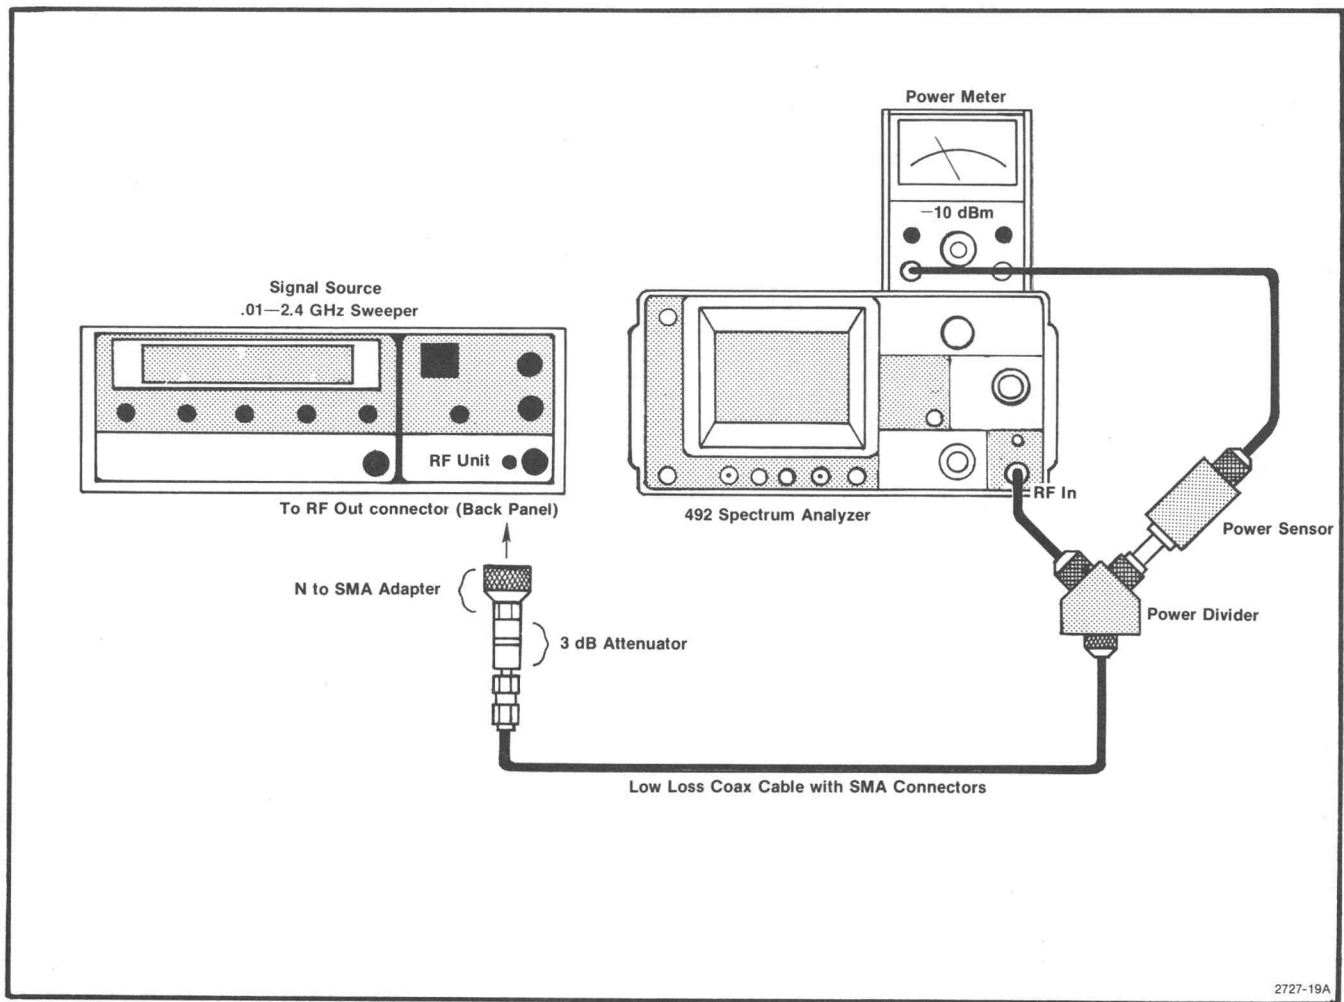

Fig. 3-5. Test equipment setup for measuring the .01-2.0 GHz frequency response.
e. Remove the 10 kHz to 10 MHz signal source and connect the test equipment as shown in Fig. 3-5. The output of the .01 to 2.4 GHz sweep generator is applied through a 3 dB attenuator and a semi-rigid high performance coaxial cable to a power divider. Connect one output of the power divider directly to the 492 RF INPUT and the other to the power sensor unit for the power meter. Ensure that all connections are snug.
e. Replace the 100 kHz to 10 MHz signal source with a 0.01 to 2.4 GHz sweep oscillator and connect the test equipment as shown in Fig. 3-5. The output of the sweep generator is applied through a 3 dB attenuator and high performance coaxial cable to a power divider. Connect one output of the power divider directly to the RF INPUT and the other output to the sensor for the power meter.